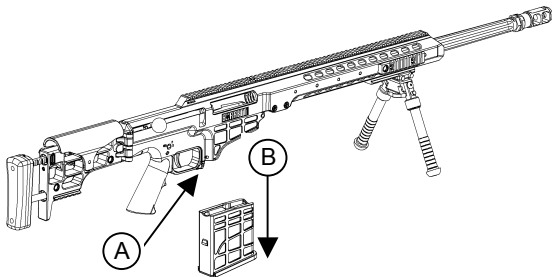

Figure 7, Step A and B.
3. Remove the magazine from the rifle by pushing the magazine catch forward and removing the magazine from the rifle. (Figure 7, Step A and B.)